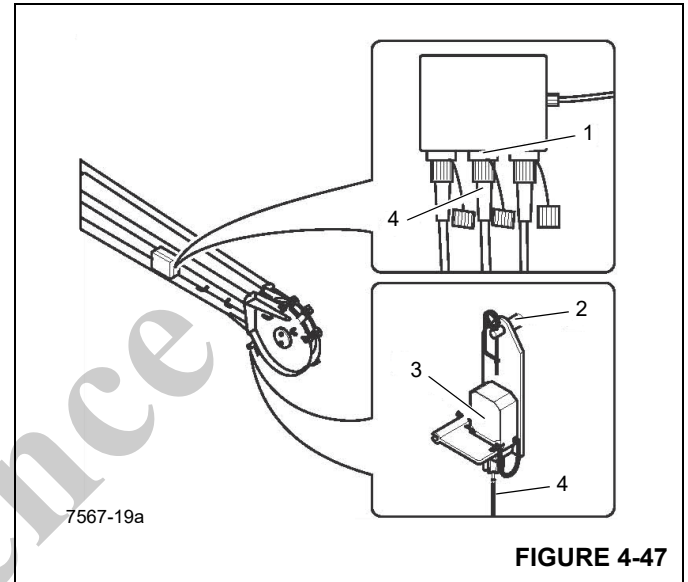

FIGURE 4-47
1. Install the A2B switch (3) on to the pin (2) and secure it with a retaining clip (Figure 4-47).
2. Route the A2B cable (4) such that it will not be damaged during crane operation, and connect the A2B switch to socket (1).